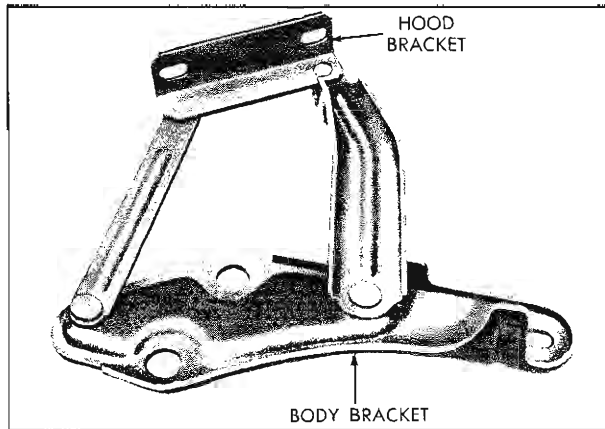

Fig. 10-3 Hood Hinge
1. Slotted holes in the hinge bracket to hood are provided to align hood fore and aft (Fig. 10-3).
The hood is mounted on hinges (Fig. 10-3) mounted to wheel house. Double assist over center springs are used, (one at each hood hinge) both ends of which are fastened to the arms of the hinge. This construction provides hold-open power.
**NOTE:** The hood may be aligned vertically and fore and aft. Vertical adjustment is made between hinge and wheelhouse assembly. Fore and aft adjustment between hood and hinge (Fig. 10-3).